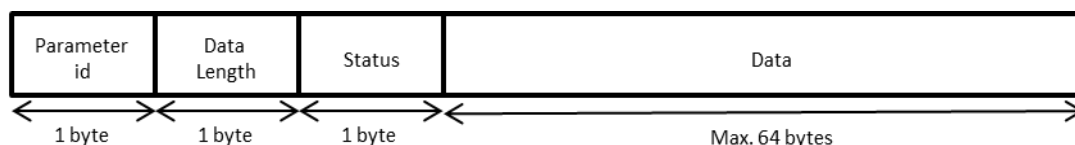

Figure 29: Indication Data Format in Read Response
- The format of the indication data is shown in Figure 29.